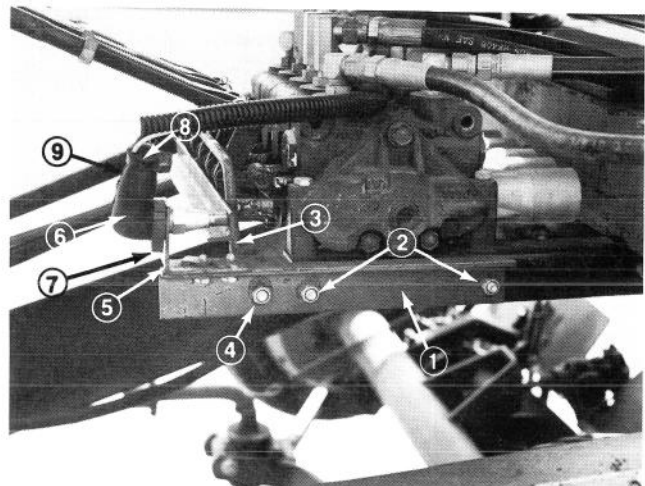
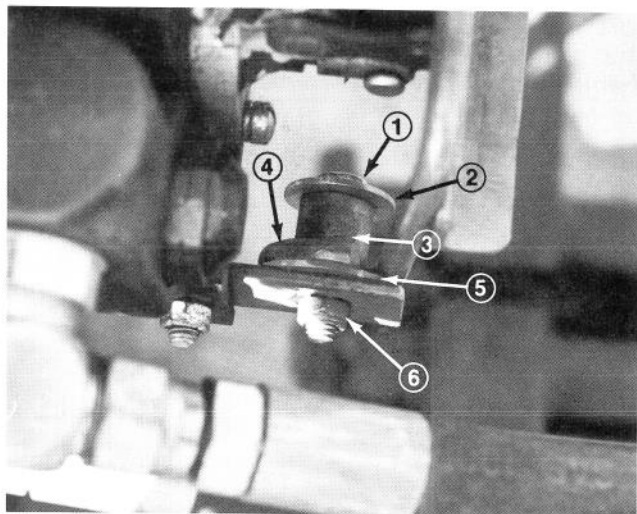

Figure 5
Figure 6
9. Secure left and right switch bail supports to valve supports with (4) 5/16 — 18 x 3/4" cap-screws and locknuts (Fig. 5).
10. Position switch bail, angle leg forward, between bail supports and secure each side with switch bail pivot, .769 I.D. washer, .344 I.D. washer, 5/16 — 18 x 1 1/4" cap screw and locknut (Fig. 5). Position washers as shown in Fig. 6.
11. Mount plunger switch assembly to switch bail support with (2) 1/4 — 20 x 5/8" cap screws and lock washers. Adjust switch fore or aft so circuit is completed when hydraulic control levers are actuated in both directions (Fig. 5).
supplied with wire harness and secure connector to plunger switch. Secure boot to switch with large clamp. Insert rubber plug around wires and into top of boot. Secure with small clamp (Fig. 5).